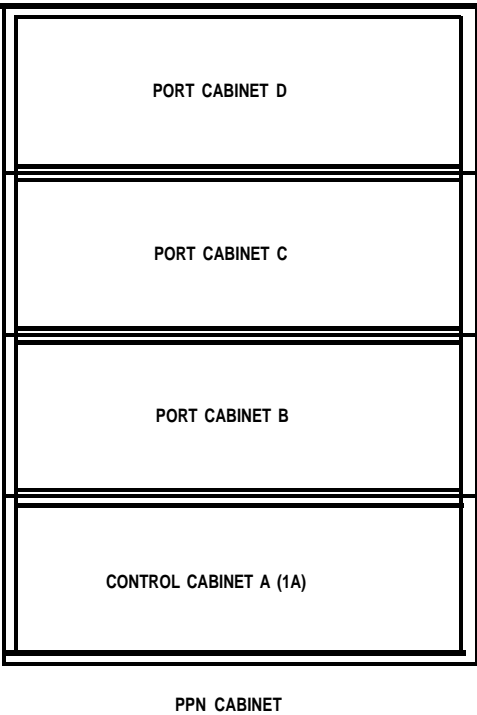

FIGURE 6. Single-Carrier Cabinets—Without Duplication (Four-Cabinet System—Front View)
Identify on Table C the cabinet type(s) and number of cabinets to be used in the system. Figures 6 through 8 show various single-carrier cabinet configurations. These are examples only and do not depict all possible configurations. For example, some configurations may require fewer port cabinets than are shown in the figures. Use the figures along with Table C to identify the type cabinet (Control, Expansion, and Port) and number of each type cabinet in your System.
- Assign a letter (B, C, or D) to all records for each Port Cabinet (J58890H 1). Use the letter as noted on Figure 6, 7, or 8 for the Port Cabinet location in a single port cabinet configuration.